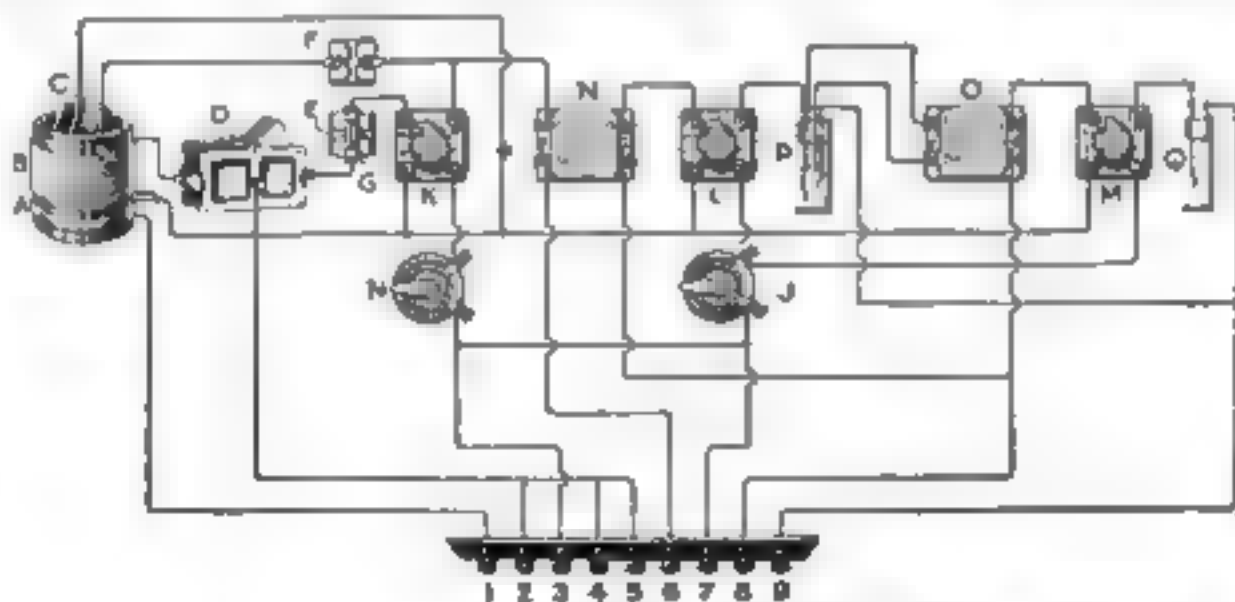

Fig. 1. Pictorial wiring diagram of the hook-up to be followed in building your prize contest set
The first thing to do, after you have decided to enter the contest, is to study the pictorial wiring diagram in Fig. 1 and the theoretical wiring diagram in Fig. 2. Neither of these diagrams shows you how to arrange the instruments in the receiver—that is a problem for you to work out. They do, however, show you how to
**W**HILE the wiring of your finished receiver must conform in all essential details with Figs. 1 and 2, you can take some liberties with the number of binding posts, the number of rheostats, and the location of the C battery. Several binding posts in Fig. 1, you will notice, are connected. If the arrangement you work out for the instruments makes it seem desirable to use fewer than the specified number of binding posts, you are privileged to use fewer, provided you explain just why you made the change.
The C battery can be fitted inside the cabinet or connected with the receiver by means of binding post as shown in Fig. 1.
**A**S YOU will note from Figs. 1 and 2, the finished receiver will employ three vacuum tubes, and will consist of a regenerative detector and two stages of transformer-coupled audio amplification. The hook-up is such that no audio-frequency current is allowed to flow in the tickler coil C, and consequently the receiver will be free from the distortion ordinarily found in regenerative sets hooked up in the conventional manner. It is a